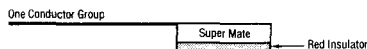

Fig. 18—Preterminated Super Mate Module
- a. The Super Mate Module can be preterminated for applications of plugging conductor groups to the body top of a Super Mini Module, the body top or body bottom of other Super Mate Modules or for clearing the cable ends. See Figure 18.